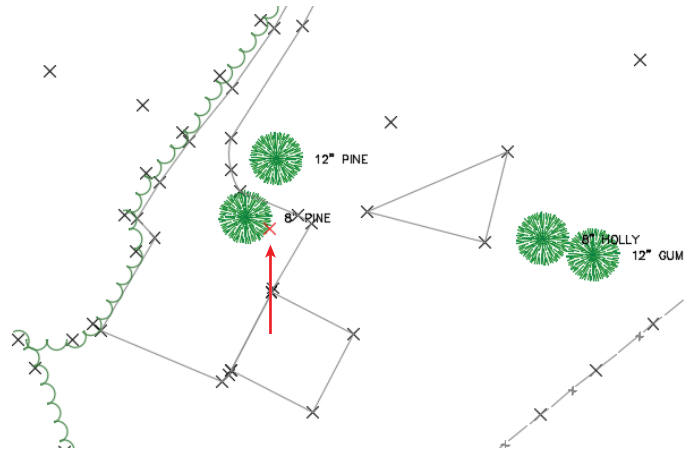

FIGURE 3.6 An error has caused this point to display incorrectly.
2. Locate and zoom in to the red point along the west treeline, as shown in Figure 3.6.